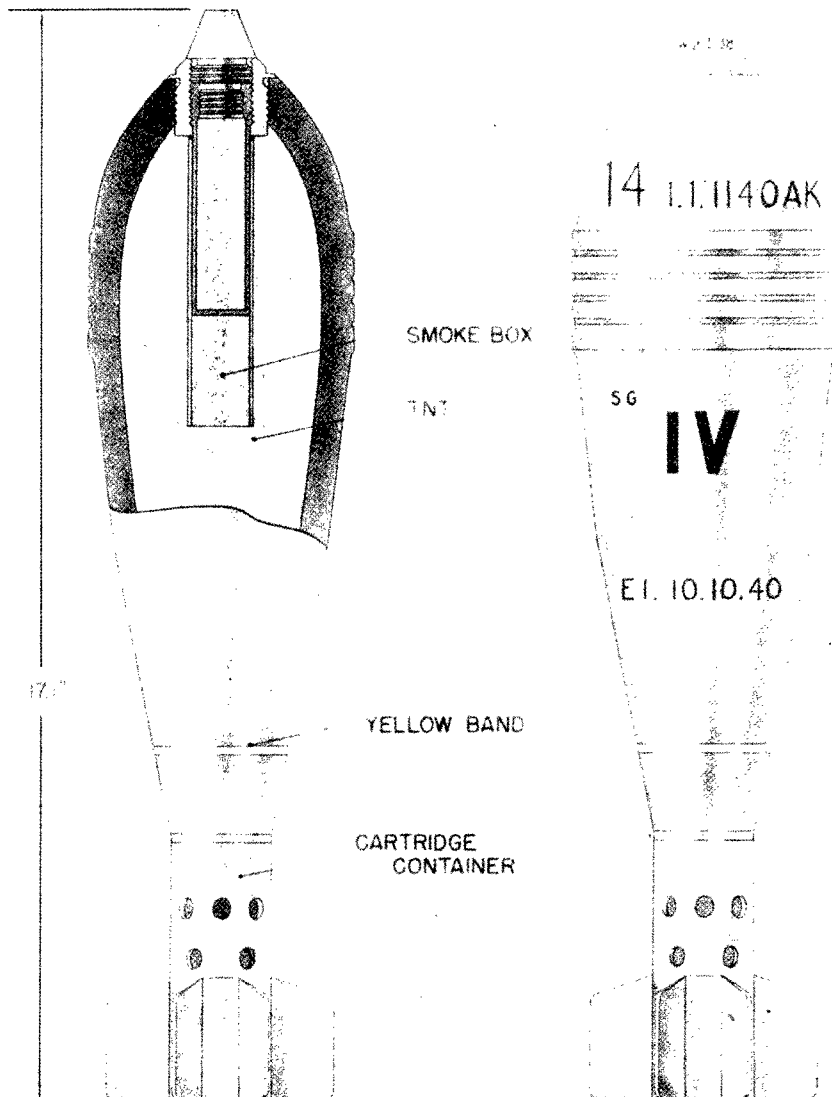

Figure 547—H. E. Mortar Projectile, 100-mm, 10-cm Wgr. 37
**GERMAN NOMENCLATURE:** 10-cm Wgr. 37 (Werfergranate 37). (See fig. 547.)